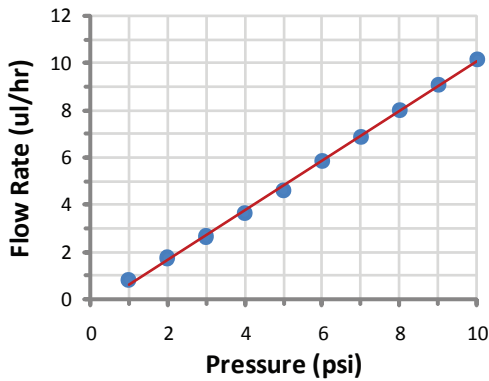

Figure 8 Flow Rate
- Use the ONIX FG computer program to schedule flows to the cells. Flow rates are given in Figures 8 and 9 . The switch time is defined as the time to completely refresh the chamber medium volume. It will take about 2-3 minutes to flush out the residual PBS in the upstream channels the **first time** a channel is used. Except in cases where rapid switching is desired, flow at ~4 psi is recommended.